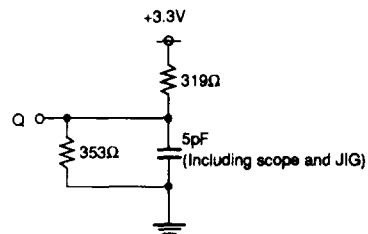

Fig. 2 Output load for ten, tdis
24. When enable and disable time (t_{en}, t_{dis}) are measured, Output loading is specified with C_L = 5pF as in Fig. 2.